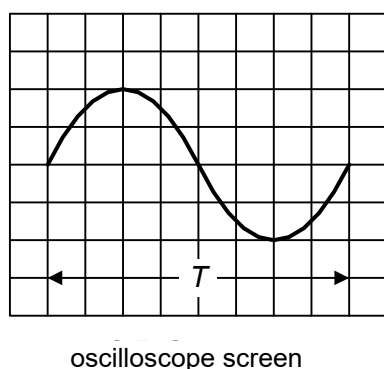

Fig. 3a
10. Adjust the time-base (time/div) of the oscilloscope to produce a large complete waveform on the screen to reduce the percentage uncertainty in the measurement of T (see Fig. 3a above).